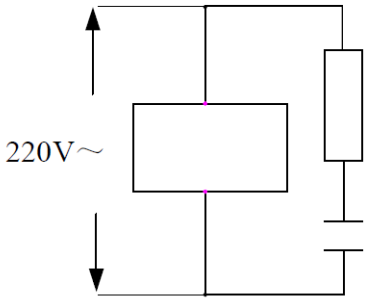
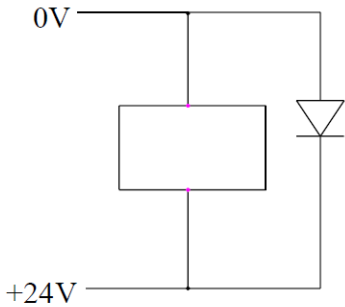
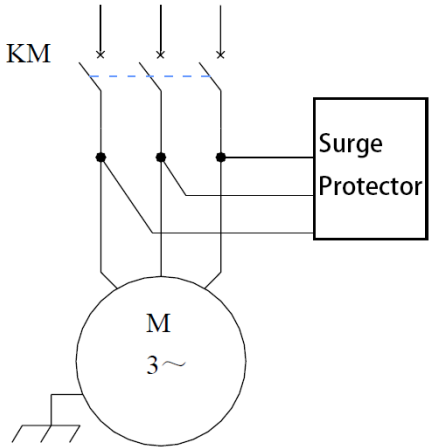

Figure 1-3
Figure 1-4
Figure 1-5
- 3、 Interference suppression: the RC loop is connected in parallel at both ends of the AC coil (as shown in Figure 1-3), and the RC loop should be installed as close as possible to the inductive load; reverse parallel freewheeling diodes at both ends of the DC coil (Figure 1-4); Connect the surge absorber at the winding end of the AC motor (Fig. 1-5).